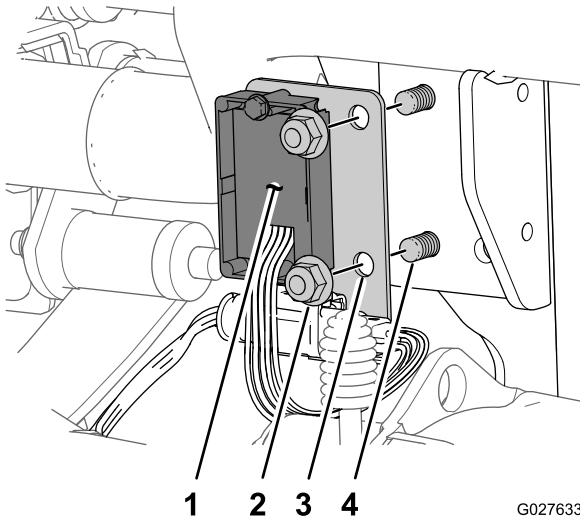

Figure 8
3. Align the holes in the bracket for the relay controller and adapter harness assembly over the 2 bolts that fasten the differential support to the differential mount (Figure 8).
4. Assemble the bracket to the support and mount with the bolts and flanged-lock nuts (Figure 8).